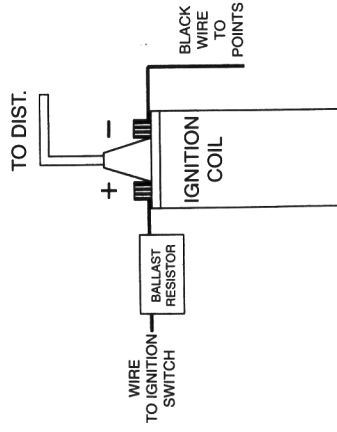

FIGURE 2
5. The red wire from the *Ignitor* must be connected to the positive (+) side of the coil, or a 12 volt switching power source. The black wire must be connected to the negative (-) side of the coil. (See Figure 2 & 3).
13. For installations that do not use a primary ballast resistor, connect the *Ignitor* red wire to the positive (+) side of the ignition coil. (See Figure 2).